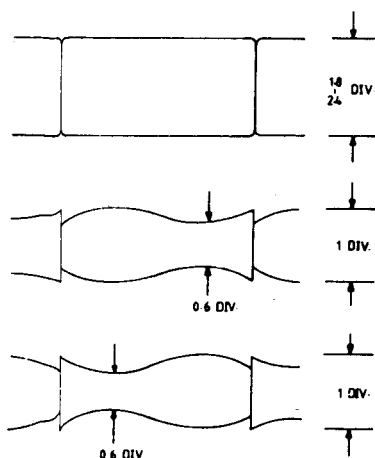

Fig.6
7. Confirm that the minimum envelope amplitude is 0.6 graticule divisions or more. (Fig. 6)
9. Confirm that the minimum envelope amplitude is 0.6 graticule division or more. (Fig 6)